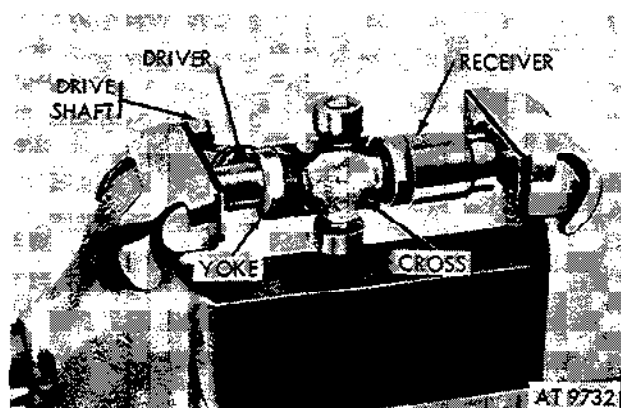

Figure 2-295. Press bearing race from yoke.
(3) With an 11/16-inch socket as a driver and 1 1/8-inch socket as a receiver, use bench vise to press bearing races and cross from yoke (fig. 2-295).
(3) With an 11 / 16-inch socket as a driver and 1 1 / 8 inch socket as a receiver, use bench vise to press bearing races and cross from yoke (fig. 2-295).